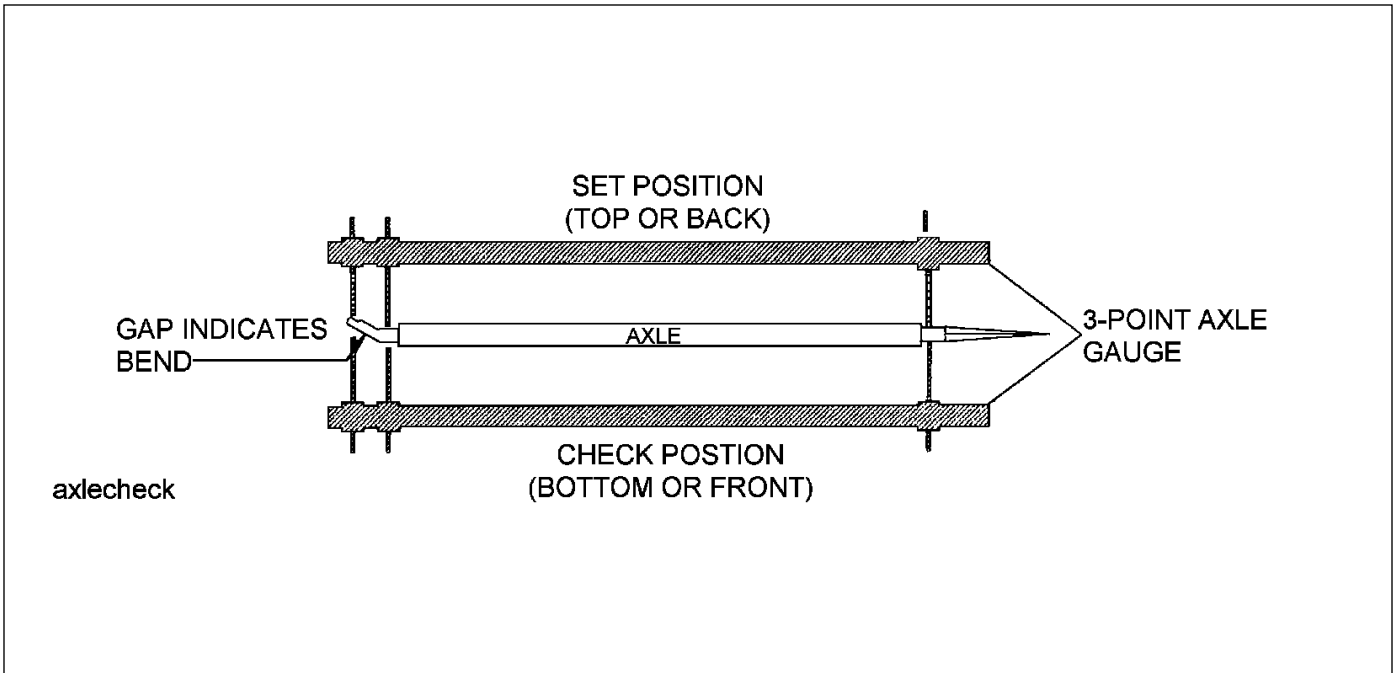

Figure 4-9: Checking Axle for Bend
2. Place a 3-point axle gauge against the front side of the axle, and adjust each axle gauge point to the axle. (Double point end against the inner and outer wheel bearing surfaces of the spindle being checked and the other point on the inner bearing surface on the other spindle.) (See Figure 4-9.)
3. Move the axle gauge and place against the back side of the axle. If either of the points of double point end fails to touch the axle surface, a bent spindle is evident. A point gap of .015" or more is considered excessive tire “toe” and the axle must be replaced (See Figure 4-9.)